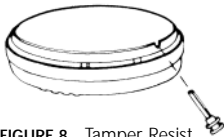

FIGURE 8 Tamper Resist Locking Pin
7. **USING TAMPER RESIST LOCKING PIN:** To make your smoke alarm tamper resistant, a locking pin has been provided in the bag with the screws and anchors. Using this pin will help deter children and others from removing the alarm from the mounting plate. To use the pin, insert it into the hole in the side of the alarm after the alarm has been installed on the mounting plate (see Figure 8).